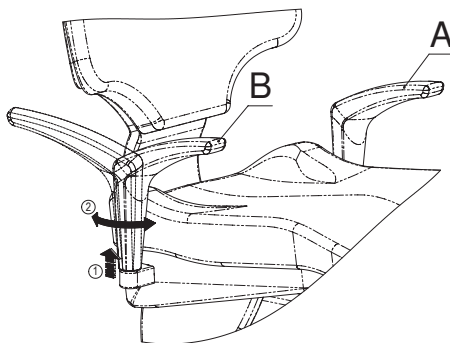

Fig. 20
To rotate the optional armrest (B), it must be pulled upwards (kept in its housing) until the rotation mechanism is released, allowing it to be turned until reaching the track limit where it stops. To return the armrest to its initial position, simply lift it and turn it inside until it locks automatically (Fig. 20).